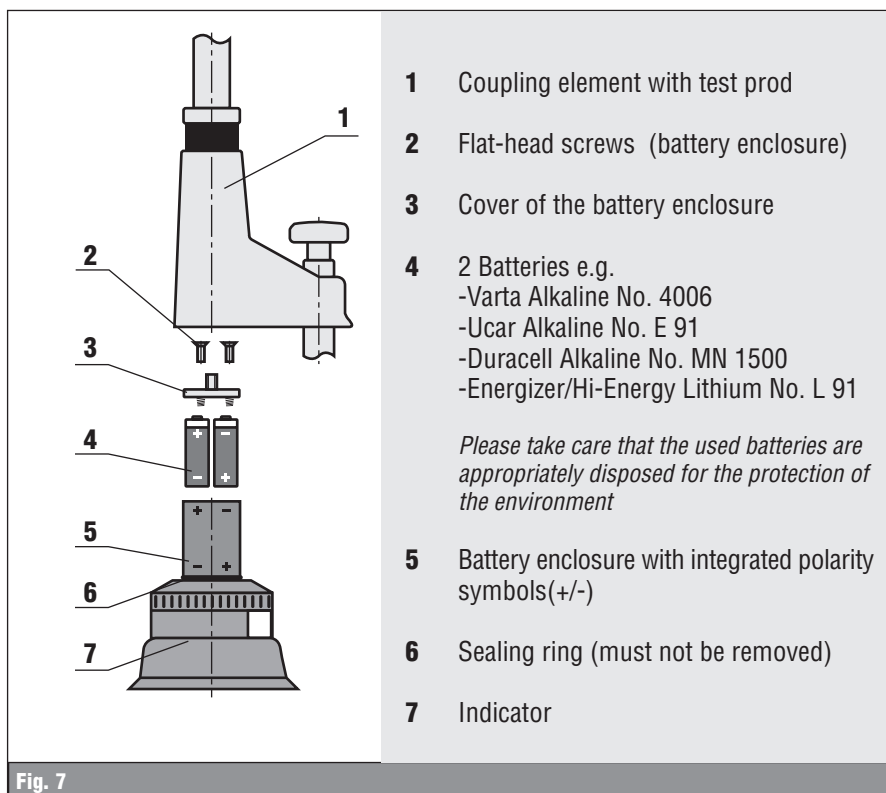

Fig. 7
- Recommended battery type: 2 Mignon, Alkali-Mangan, 1.5 V (IEC LR 6 alkaline-manganese), leakage-proof (see Fig. 7)
- Unscrew the indicator (7) from the coupling element with test prod (1) with a left-hand rotation.
- Unscrew and remove 2 flat-head screws (2) from the battery enclosure (5).
- Exchange 2 batteries (4). Observe the polarity symbols in the battery enclosure (5).
- The sealing ring (6) of the indicator (7) must not be removed for safety reasons (see Fig. 7)